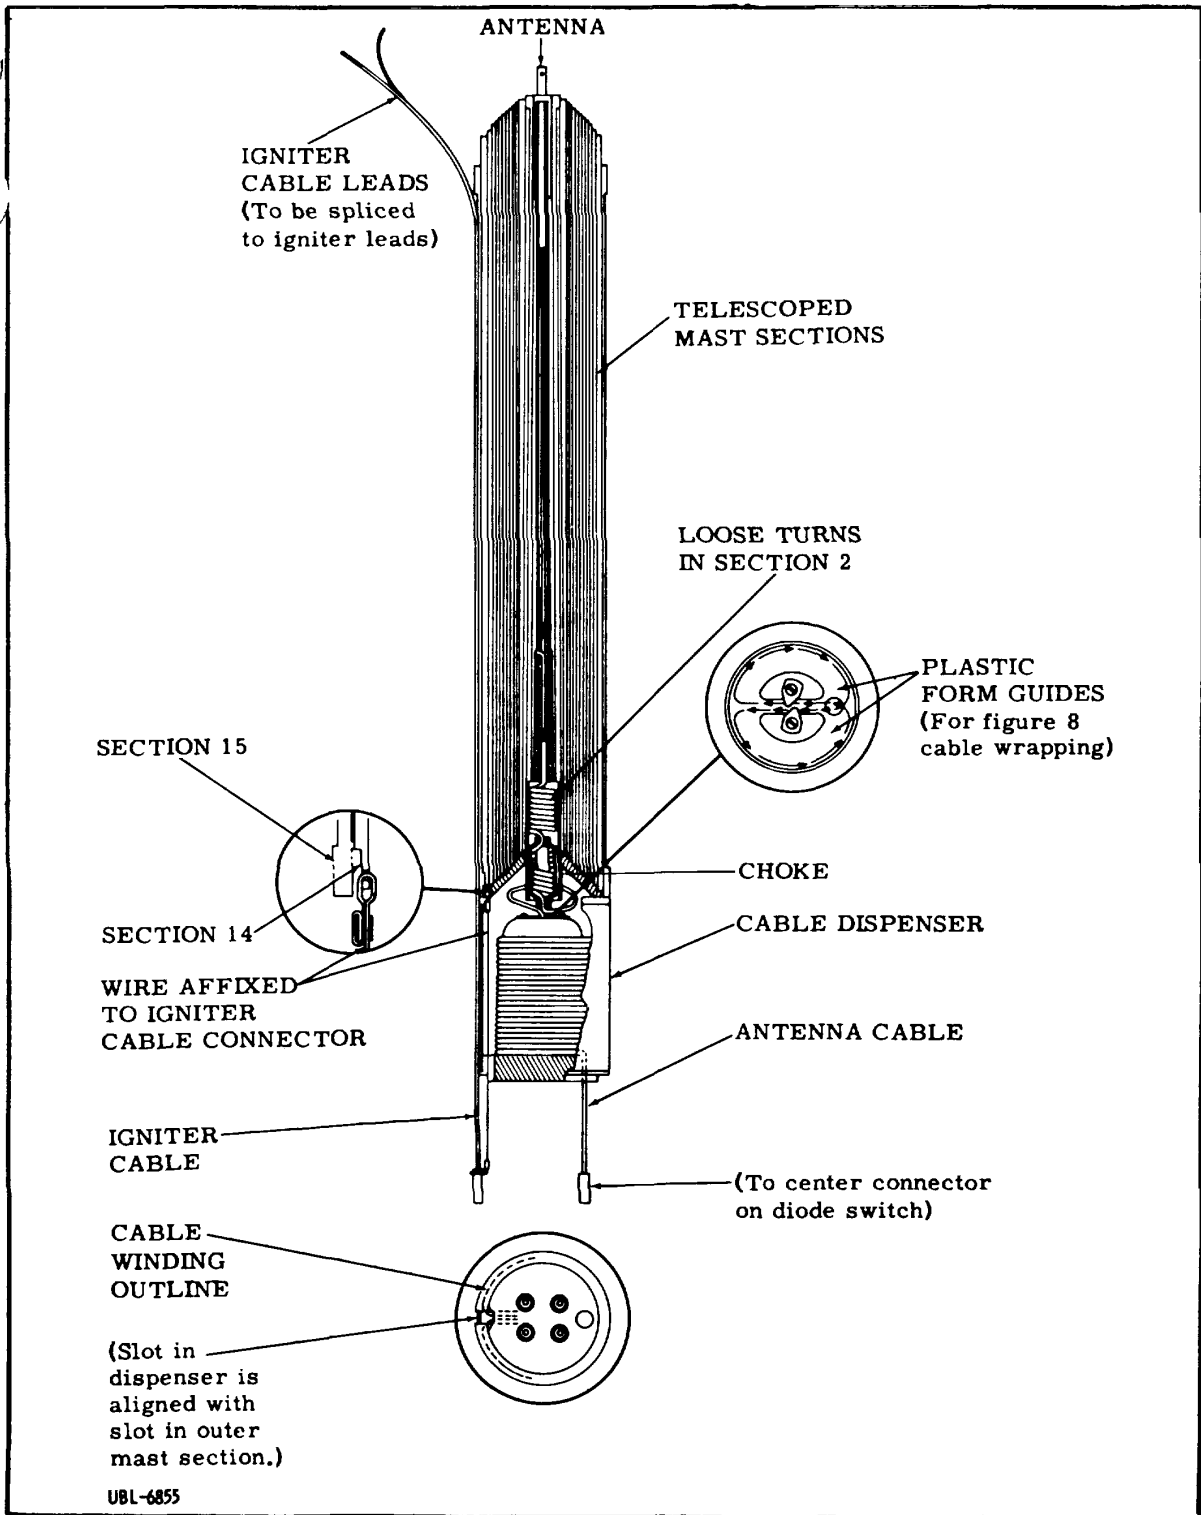

Figure 4-3L. Details of Antenna Cable Dispenser and Mast Assembly
7. Before removing tape on end of mast sections, examine figure 4-3L and note the following conditions.